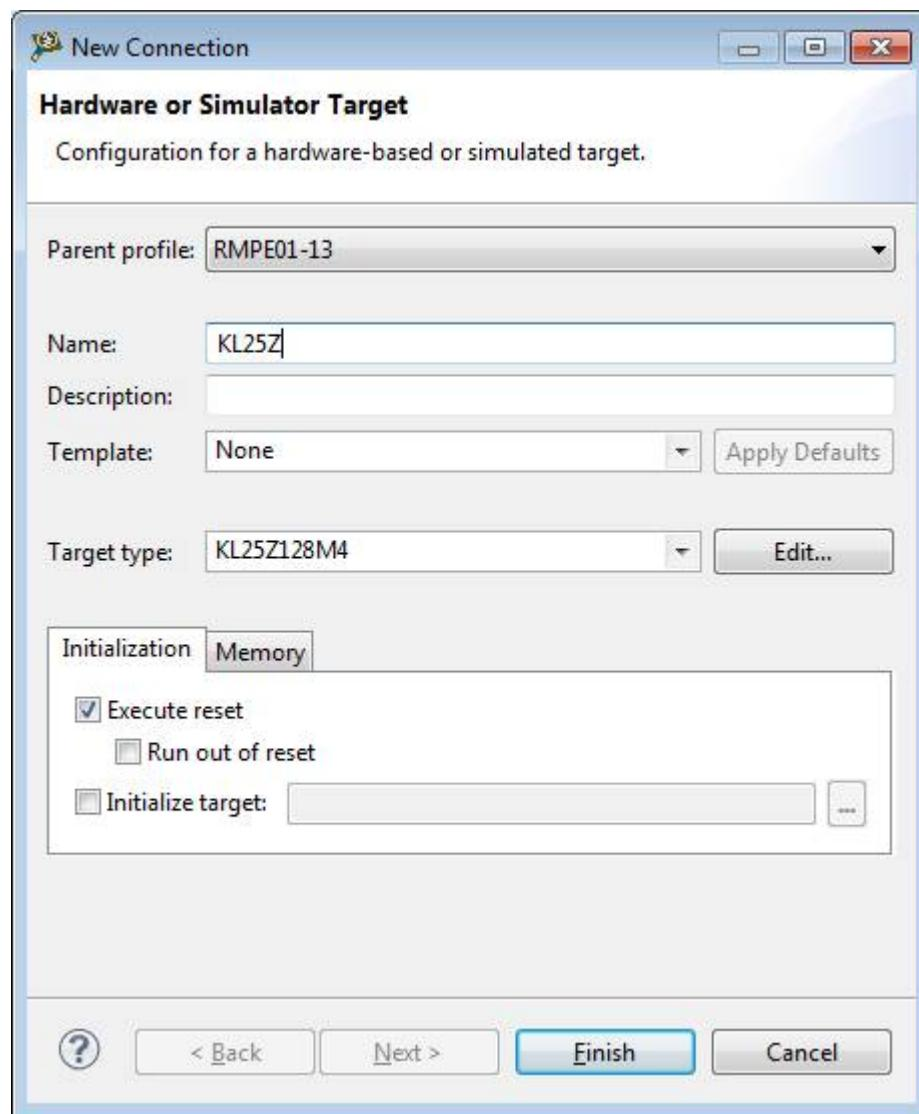

Figure A-5. Selecting CodeWarrior Target type
7. Click the Edit button on the **Target type** field, see Figure A-5.
8. Check the “Execute reset” check box, (see Figure A-5) then enter a value in the name field and click **Finish**.